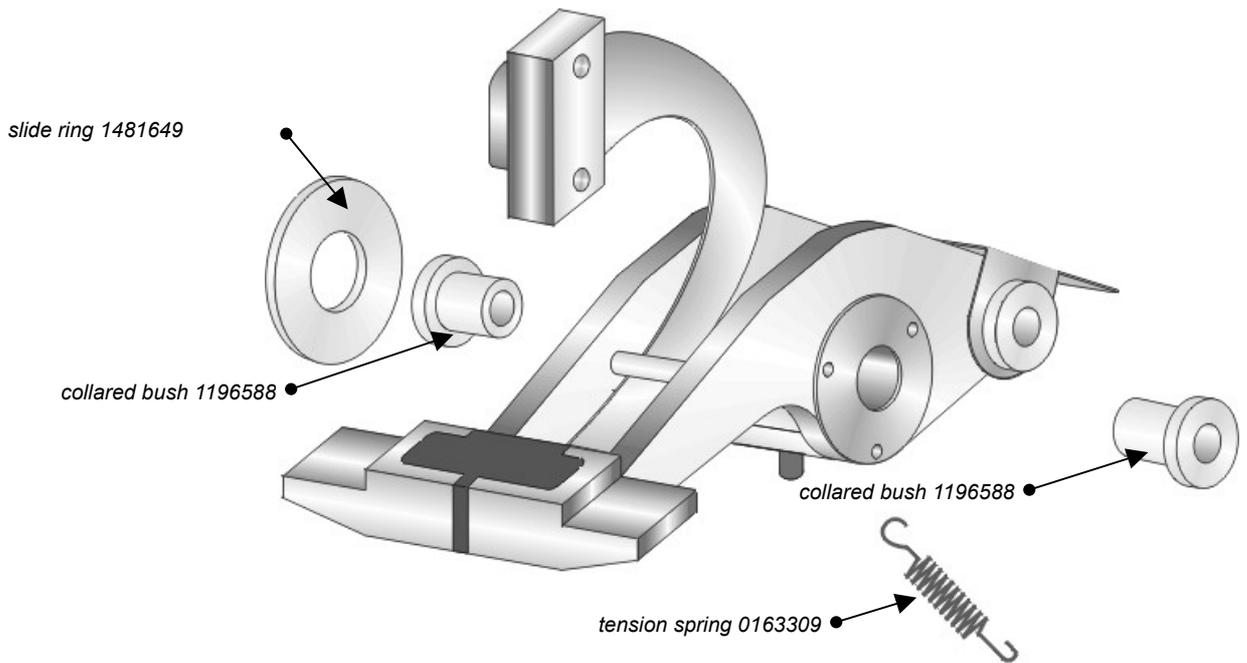

Fig. 5.6 Wear parts in the test heads
- Clean all parts, especially bolt (2), sealing ring (3), collared bushes (ref. to Fig. 5.6) and test head bearing bush.